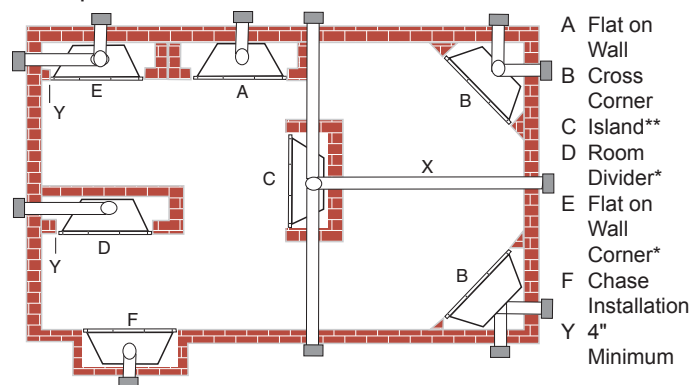

Figure 4 - Locating Gas Fireplace
- This fireplace may be installed along a wall, across a corner, or use an exterior chase. Refer to *Figure 4* for suggested locations.